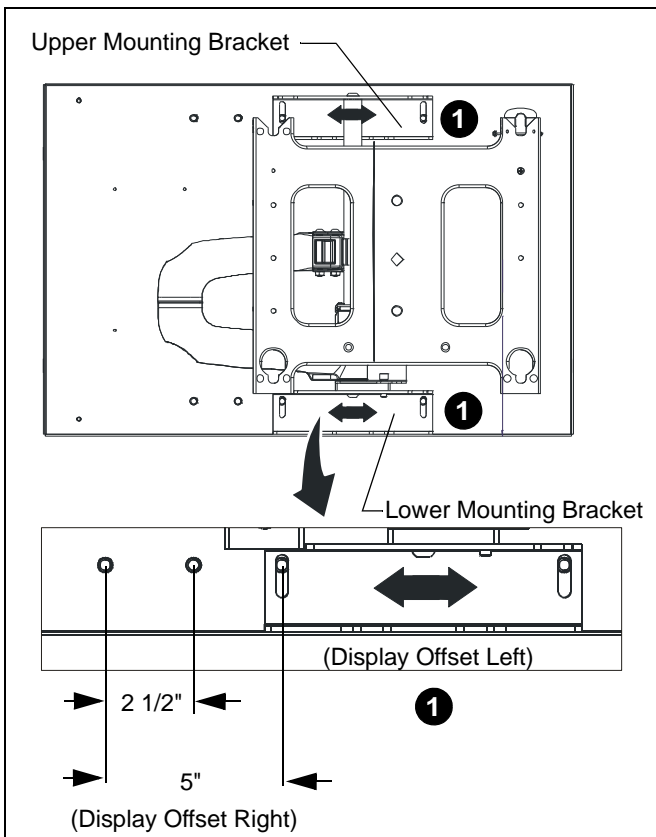

Figure 2
The PAC501 is designed to accommodate up to 5" of right or left display offset. This is accomplished by aligning the upper and lower mounting brackets on the PWRIW with either the right hand or left hand mounting holes in the PAC501. (See Figure 2)
1. Align mounting holes in swing arm UPPER and LOWER mounting brackets with four mounting holes in PAC501. (See Figure 2)